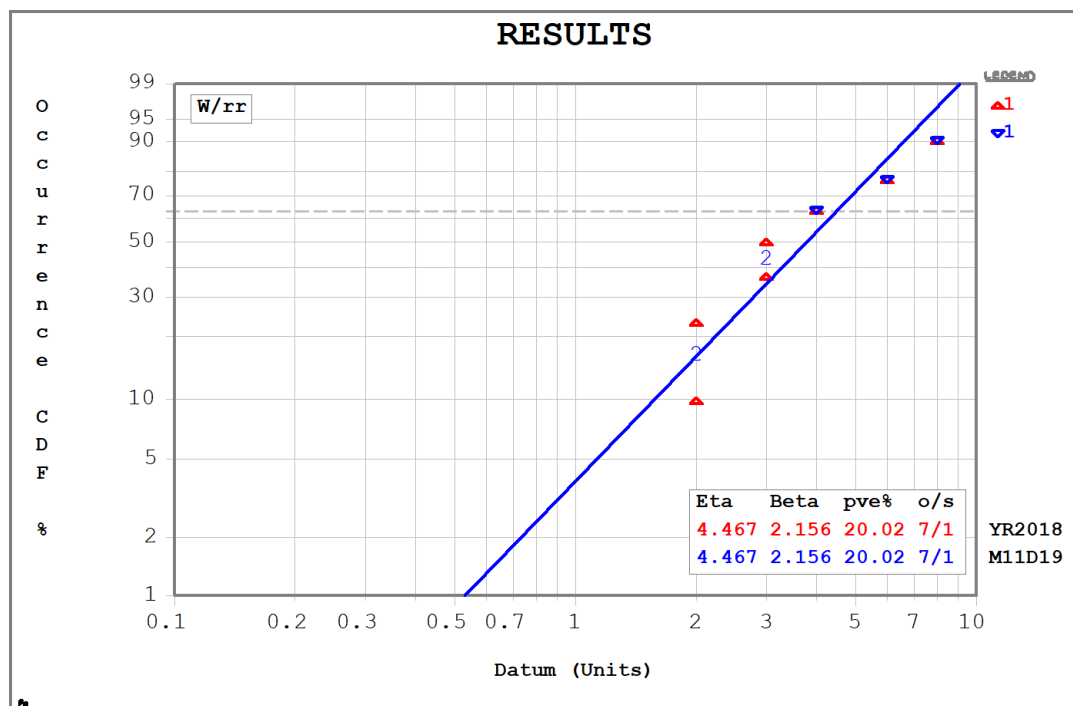

Figure 4: Weibull Plot Using “x2” After Data Values “2” and “3” for Set #2
- D. Select the plot to enlarge. Your plot should resemble Figure 4 below. Same solution for both data sets! A shortcut way to enter repeated values is with the frequency value after the separator “x”. Select on the plot or use the <ESC> key to return to the Main Screen.